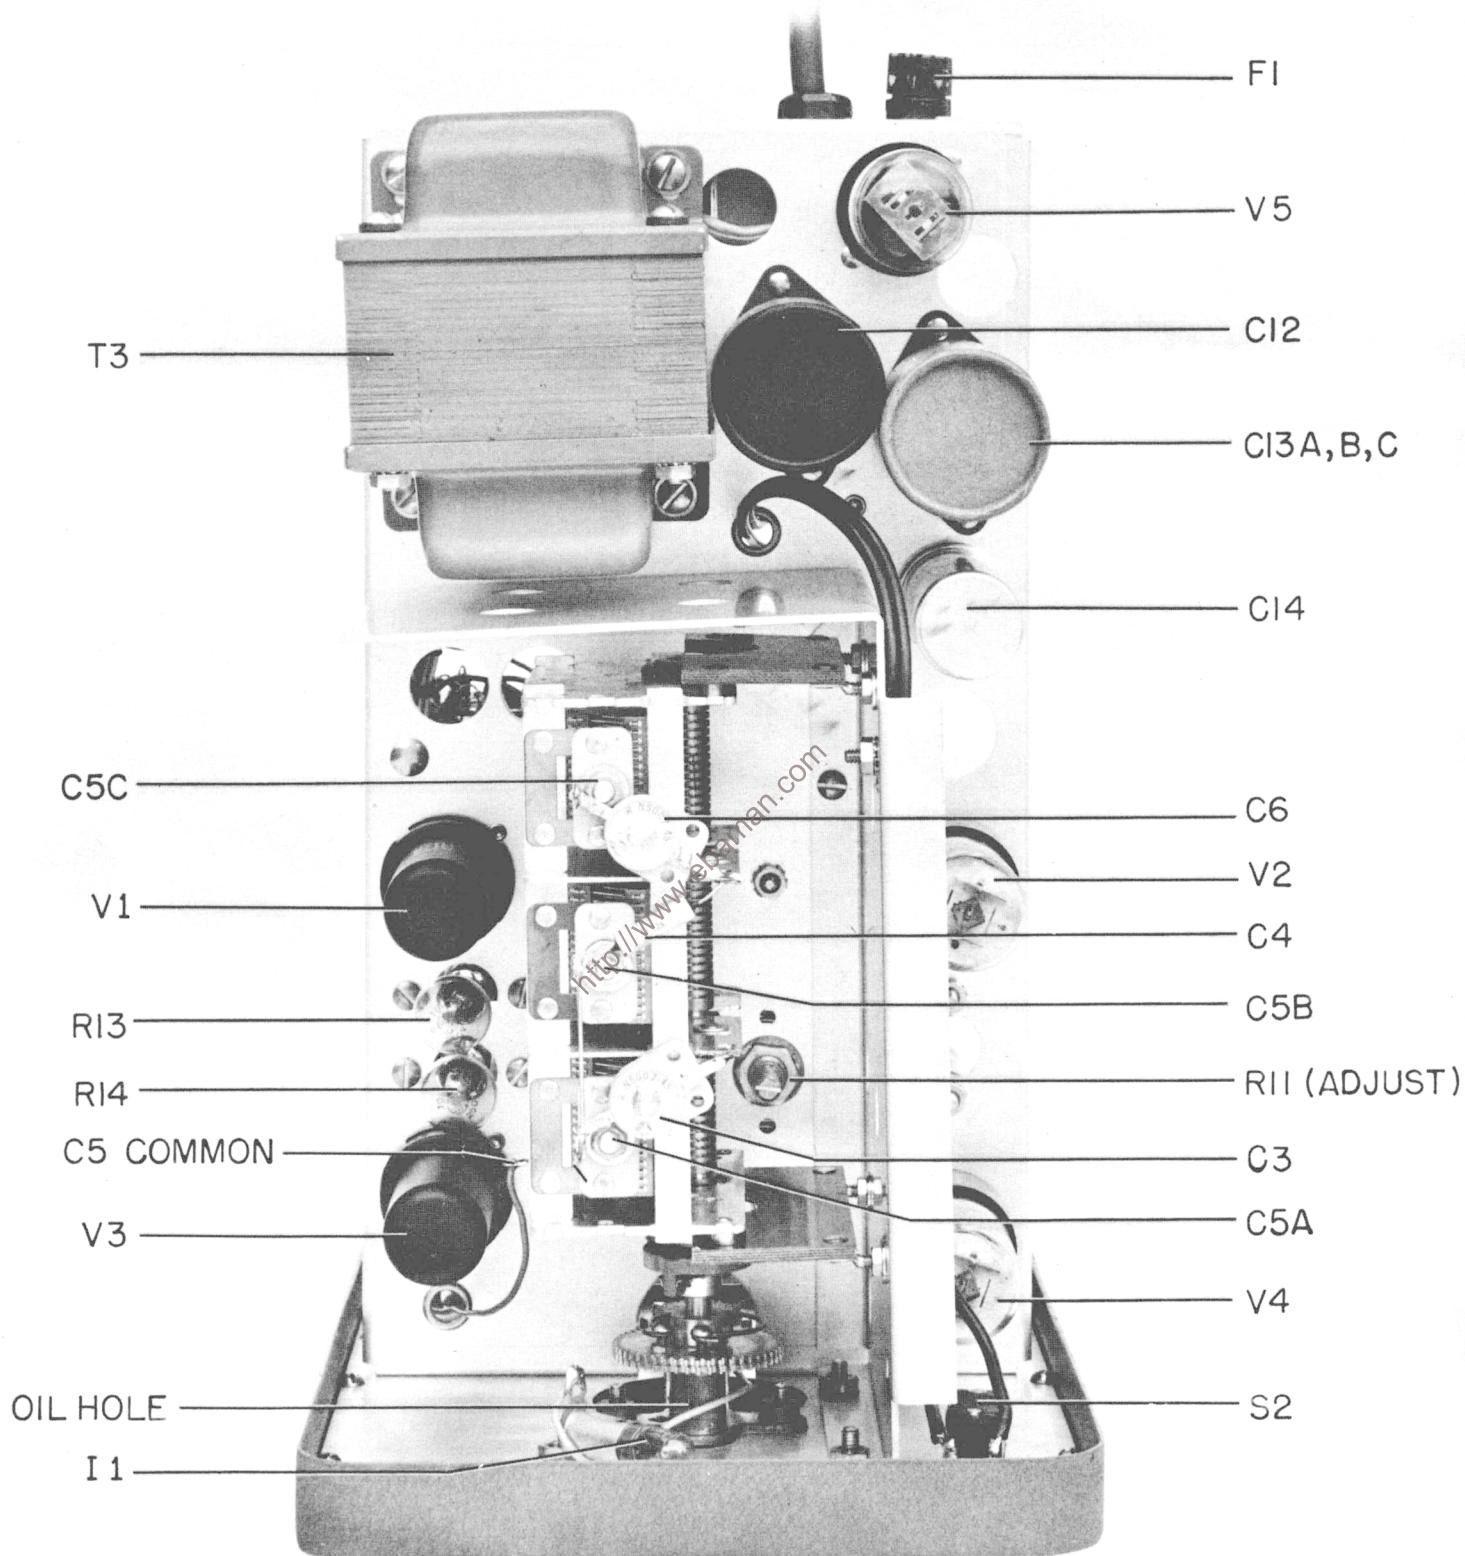

Figure 4-2 Model 200CD Top View Cover Removed
- 2) With alignment tool, adjust either trimmer (C3 or C6 [Figure 4-2]) to bring "60" on calibration. (Seldom necessary to adjust both trimmers.)
| <p>c. Short circuit in tuning capacitor C5, variable capacitor C3 or C6 or fixed capacitor C4.</p> <p>d. Capacitor C5 shorted to ground.</p> <p>e. Defective lamp (R13 or R14).</p> | <p>c. (1) To check capacitors C5A, C5B, C3, and C4: A. Disconnect Model 200CD from line. B. Connect one ohmmeter terminal to C5 terminal designated C5B on Figure 4-2, and other to chassis. C. Turn RANGE switch to X1. D. Ohmmeter should indicate approximately 25.79M.</p> <p>(2) To check capacitors C5C, C6: A. Connect one ohmmeter terminal to C5 common terminal (Figure 4-2) and other to chassis. B. With 200CD disconnected from line and RANGE switch on X1, ohmmeter should indicate approximately 50.18M.</p> <p>d. (1) Connect one ohmmeter terminal to C5 terminal (designated C5C on Figure 4-2), and other to chassis. (2) With 200CD disconnected from line and RANGE switch at any setting, ohmmeter should indicate approximately 10K.</p> <p>e. See paragraph 4-4.</p> | <p>c. If resistance measurements indicate short, before making further checks, visually examine C5. If C5 is dirty, gently blow dust from plates with air hose, and then again make resistance measurements.</p> <p>d. If resistance measurement indicates short, check for defect in insulation between C5 and instrument chassis.</p> |